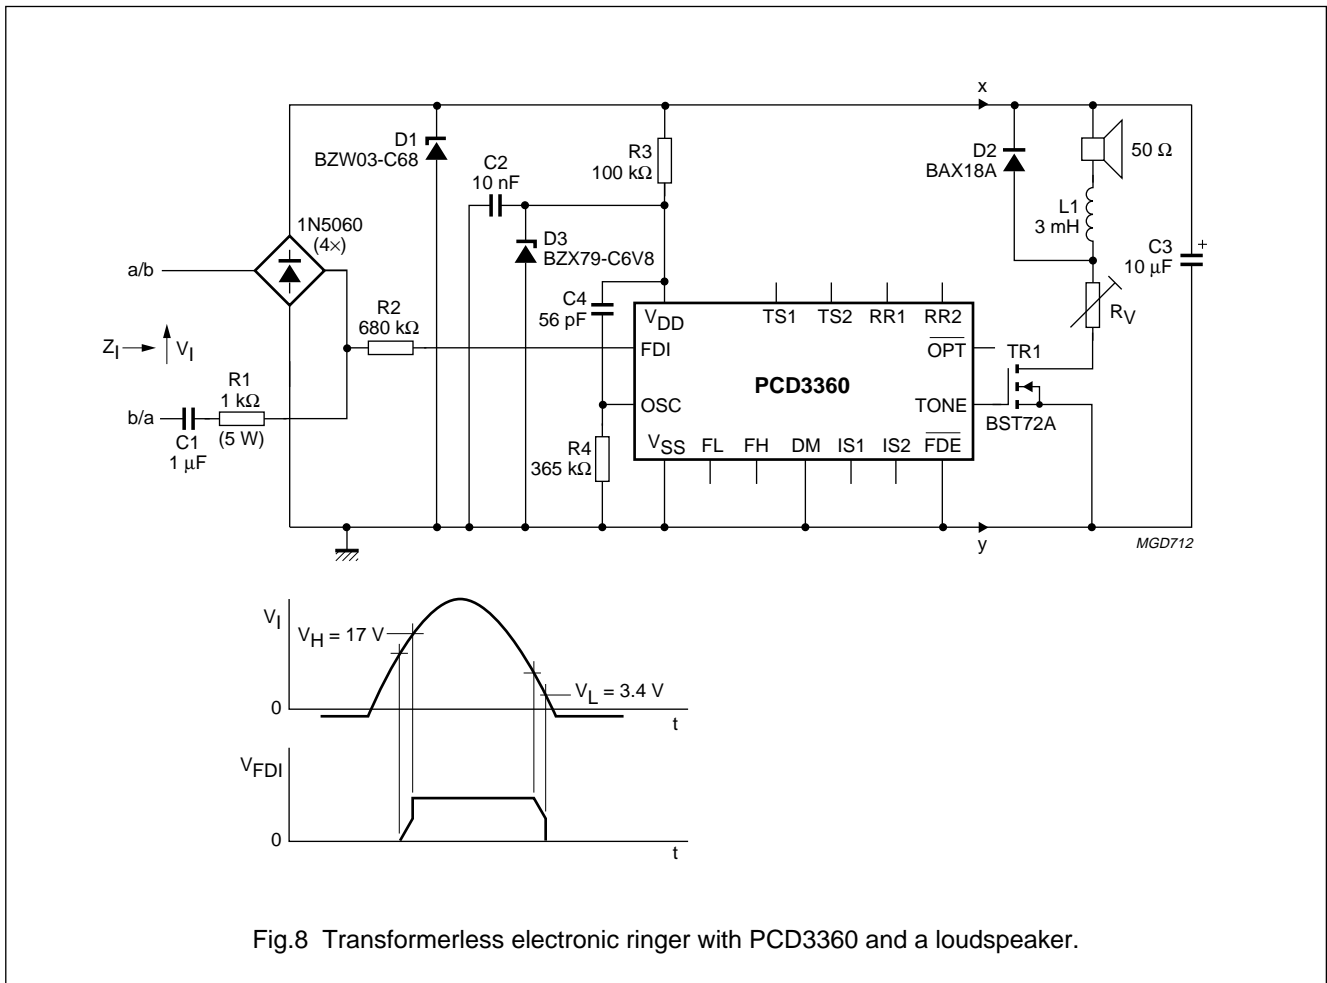
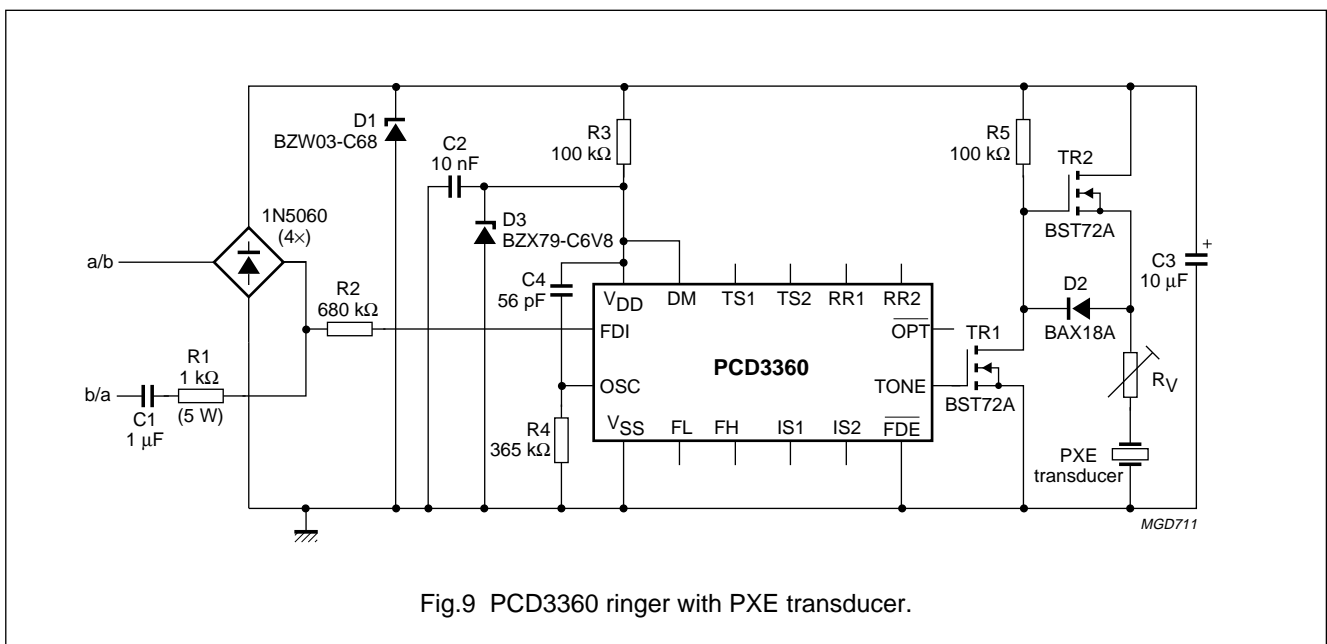

Fig.8 Transformerless electronic ringer with PCD3360 and a loudspeaker.
Fig.9 PCD3360 ringer with PXE transducer.
- $R_{OSC} = 365\text{ k}\Omega$; $C_{OSC} = 56\text{ pF}$; $\text{FDI} = \overline{\text{FDE}} = V_{DD}$; all other inputs and outputs open-circuit; see Figs 8 and 9.
Application of the PCD3360 in a telephone ringer circuit together with a loudspeaker is shown in Fig.8.
- The value of R2 (680 kΩ in Fig.8).
- The value of R3 (100 kΩ in Fig.8).
Application of the PCD3360 together with a PXE transducer is shown in Fig.9. The only significant difference between Fig.8 and Fig.9 is the output stage. Two BST72A transistors provide an output voltage swing almost equal to the voltage at C3. Pins IS1 and IS2 are inoperative because DM = HIGH. Volume control is possible using resistor R_V.